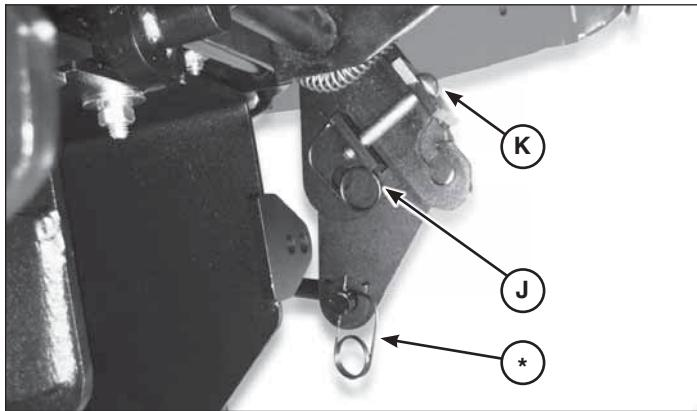

Figure 11
3. Secure rod and lift assembly with safety clip (\*, Figure 11). Secure lift lever assembly with clevis pin (K) and safety clip (J).